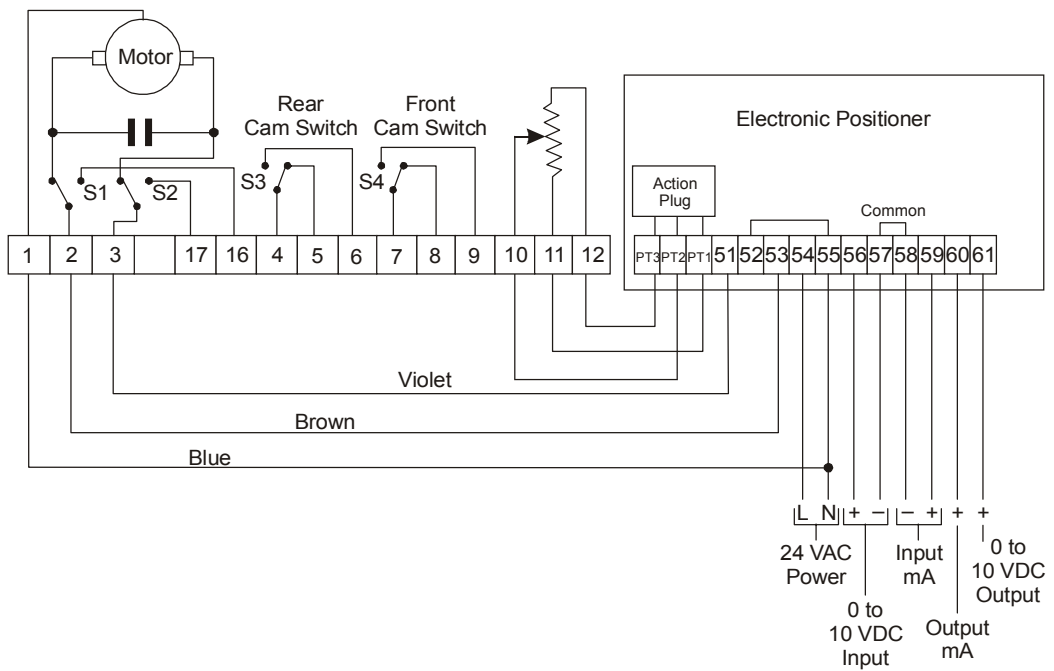

Figure 7: VA-6100-HGC Wiring Diagram for Proportional Control
1. Apply 24 VAC power to Terminals 54 and 55 (as illustrated in Figure 7) and determine if the actuator is set for direct acting or reverse acting.
4. Apply 24 VAC power to Terminals 54 and 55 (as illustrated in Figure 7) and check for the desired action.
1. Apply 24 VAC power to Terminals 54 and 55 (as illustrated in Figure 7).
- a. Input the desired minimum control signal between 0 and 8 VDC to Terminals 56 and 57 (as illustrated in Figure 7) for voltage applications, or input the desired minimum control signal between 0 and 16 mA to Terminals 58 and 59 (as illustrated in Figure 7) for current applications. The actuator motor may run, illuminating the green LED. If so, wait until the actuator motor stops and the red LED is illuminated before proceeding.
- b. Connect a voltmeter to Terminals 57 and 61 or a current meter to Terminals 58 and 60 (as illustrated in Figure 7). The voltmeter should be on the 10 V range or the current meter should be on the 20 mA range.
- f. Input the desired maximum control signal between 2 and 10 VDC to Terminals 56 and 57 (as illustrated in Figure 7) for voltage applications, or input the desired maximum control signal between 4 and 20 mA to Terminals 58 and 59 (as illustrated in Figure 7) for current applications. The maximum control signal must always exceed the minimum control signal by at least 2 VDC or 4 mA.
- a. Input the desired maximum control signal between 2 and 10 VDC to Terminals 56 and 57 (as illustrated in Figure 7) for voltage applications, or input the desired maximum control signal between 4 and 20 mA to Terminals 58 and 59 (as illustrated in Figure 7) for current applications. The actuator motor may run, illuminating the green LED. If so, wait until the actuator motor stops and the red LED is illuminated before proceeding.
- f. Input the desired minimum control signal between 0 and 8 VDC to Terminals 56 and 57 (as illustrated in Figure 7) for voltage applications, or input the desired minimum control signal between 0 and 16 mA to Terminals 58 and 59 (as illustrated in Figure 7) for current applications. The minimum control signal must always be at least 2 VDC or 4 mA less than the maximum control signal.